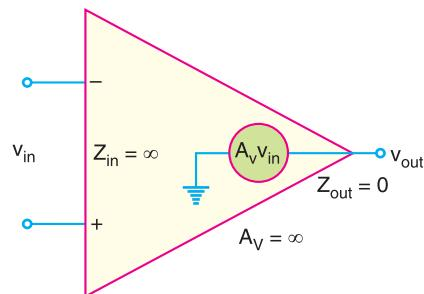

Fig. 25.43
**(ii) Ideal OP-amp.** Fig. 25.43 shows the a.c. equivalent circuit of an ideal OP-amp. The characteristics of an ideal OP-amp are : *infinite voltage gain, infinite input impedance* and *zero output impedance*. The consequences of these properties of an ideal OP-amp are :